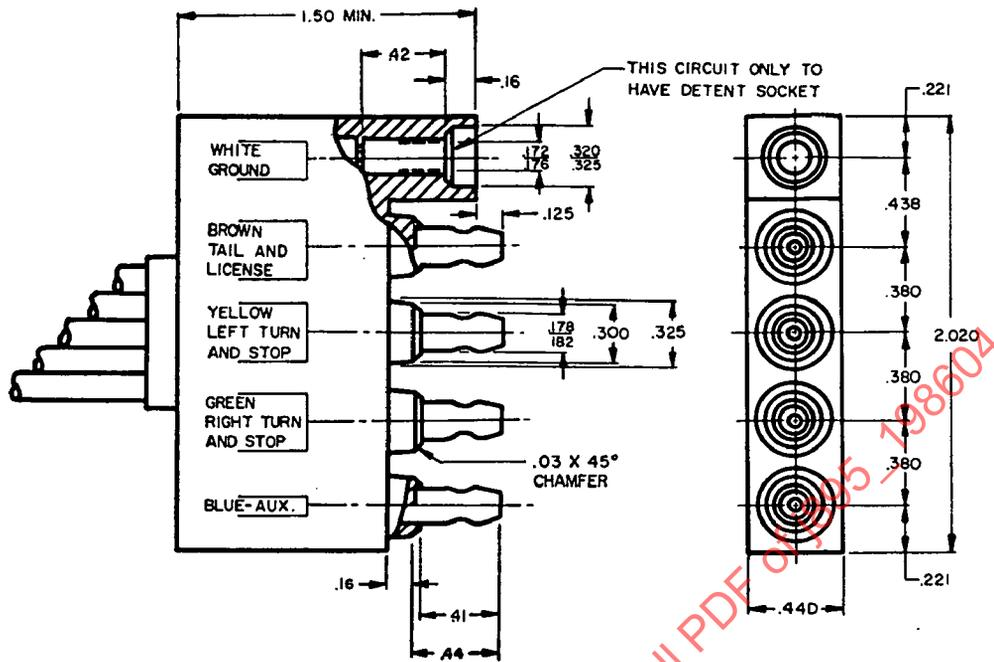

FIG. 2 - PLUG
3. **PLUG:** The plug shall be as shown in Fig. 2, and wiring, shall be attached to the trailer so that the wires have the maximum protection against road splash, stones, abrasion, grease, oil, and fuel. The wiring shall be secured to the trailer frame at intervals not greater than 18 in so that the wiring does not shift or sag. The circuits used shall be color coded as follows: